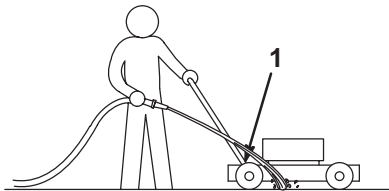

Figure 19
3. Hold the running garden hose at handle level, turn on the water, and direct the water to flow on the ground just in front of the right rear tire (Fig. 19).